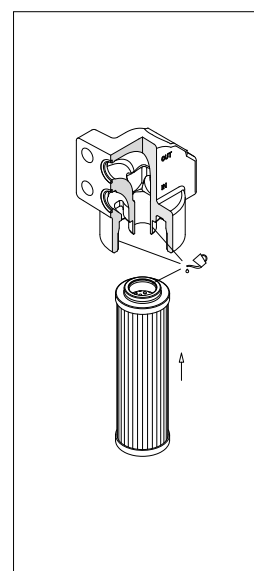

fig. 24
- (Fig. 24) Lubricate with the operating fluid the filter element O-ring, the housing tap and cavity, then fit the filter element on the tap. Pay attention not to damage the O-ring seal